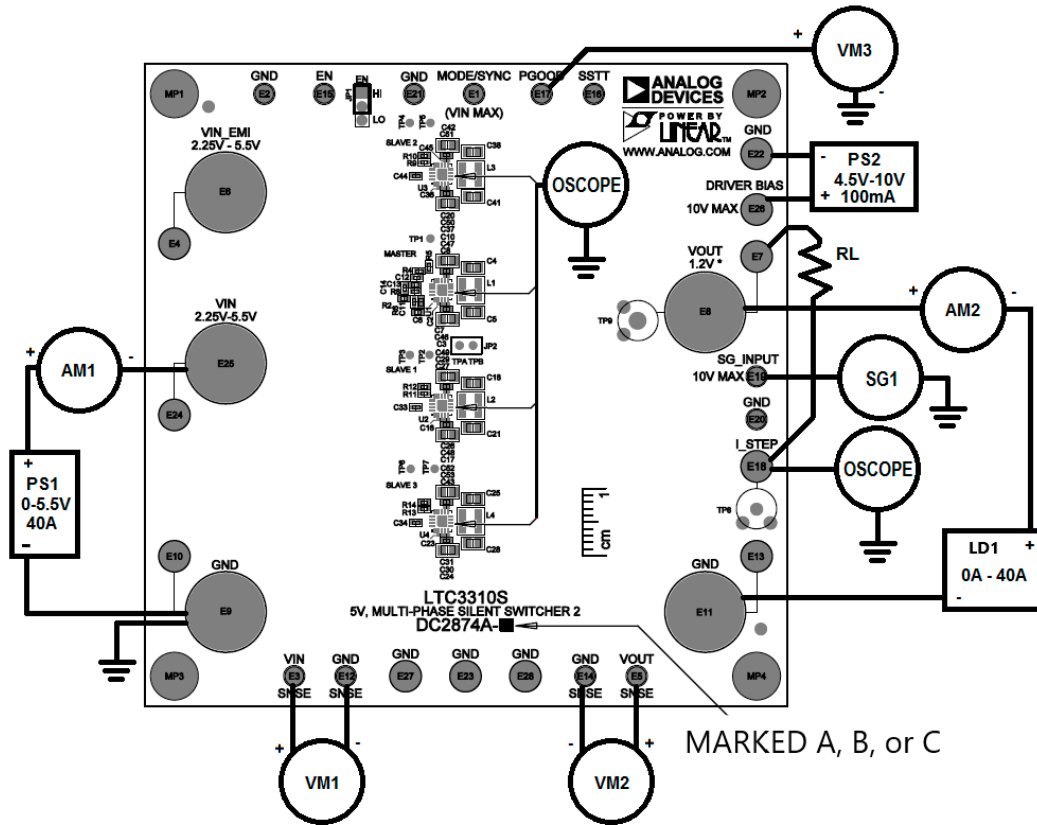
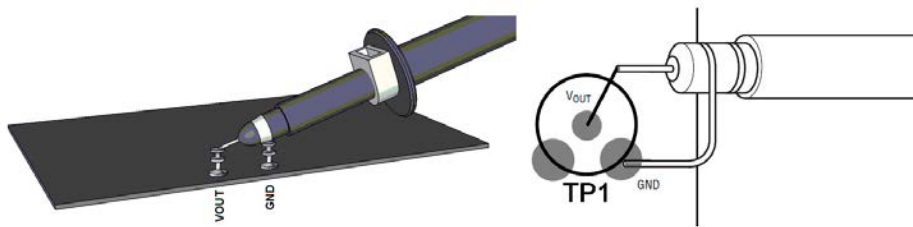

Figure 1. Test Setup for the DC2874A Demo Board
Figure 2. Technique for Measuring Output Ripple and Step Response
Demonstration circuit 2874A is easy to set up and evaluate the performance of the LTC3310S in multiphase operation. Refer to Figure 1 for the proper measurement equipment setup and jumper settings. Follow the procedure below to familiarize yourself with the DC2874A.
NOTE: For accurate V_{IN} , V_{OUT} and efficiency measurements, measure V_{IN} at the VIN SNSE and GND SNSE turrets and V_{OUT} at the VOUT SNSE and GND SNSE turrets as illustrated as VM1 and VM2 in Figure 1. When measuring the input or output voltage ripple, care must be taken to avoid a long ground lead on the oscilloscope probe. Measure the output voltage ripple by touching the probe tip directly across the output turrets or to TP1 as shown in Figure 2.
3. Slowly increase PS1 to 1.0V. If AM1 reads less than 20mA, increase PS1 to 3.3V. Verify that VM1 reads 3.3V and VM2 reads 1.2V. Record VM1, VM2, VM3 AM1 and AM2. Connect an oscilloscope voltage probe as shown in Figure 2. Set Channel to AC coupled, voltage scale to 10mV and time base to 100ns. Record V_{OUT} ripple voltage. Verify that PGOOD voltage is above 3V. Set the EN Jumper, JP1, to the HI position.
5. To test the transient response with a base load, turn off LD1 and add the desired resistor to produce a minimum load between VOUT and I_STEP turrets (RL shown on Figure 1).